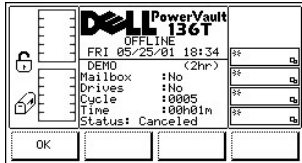

Figure 112. Service > Library > Exercise > Demo Using Time > Canceled Dialog
- 1 If the button beneath the **Cancel** softkey is pressed, Figure 112 is displayed.